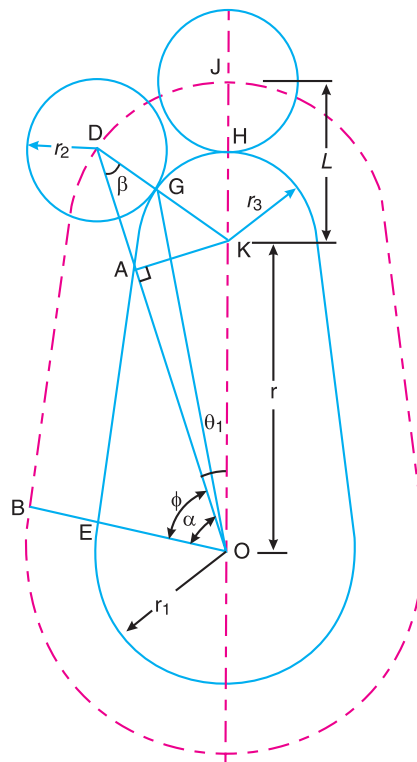

Fig. 20.41. Tangent cam with reciprocating roller follower having contact with the nose.
2. When the roller has contact with the nose. A roller having contact with the circular nose at G is shown in Fig 20.41. The centre of roller lies at D on the pitch curve. The displacement is usually measured from the top position of the roller, *i.e.* when the roller has contact at the apex of the nose (point H) and the centre of roller lies at J on the pitch curve.
4. From Fig 20.41, we see that the distances OK and KD remains constant for all positions of the roller when it moves along the circular nose. In other words, a tangent cam operating a roller follower and having contact with the nose is equivalent to a slider crank mechanism (i.e. ODK) in which the roller is assumed equivalent to the slider D, crank OK and connecting rod DK. Therefore the velocity and acceleration of the roller follower may be obtained graphically as discussed in Chapters 7 and 8.